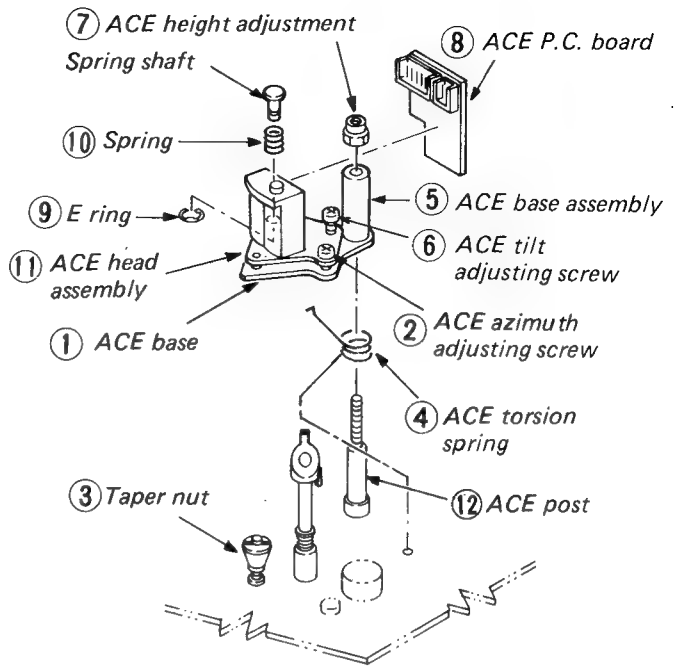

Fig. 1-3-18 Replacement of ACE head assembly
- 1) Disconnect a 6P connector from the ACE P.C. board ⑧.
- 2) Turn the ACE height adjusting nut ⑦ counterclockwise and remove the nut in order to remove ACE base assembly ⑤. (Refer to Fig. 1-3-18).